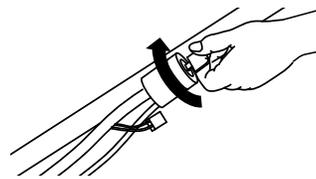
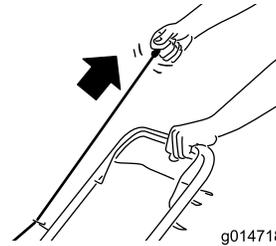

Figure 16
Figure 17
2. Insert the key into the electric starter and turn it (electric-start models only; refer to Figure 16) or pull the recoil-start handle (Figure 17).